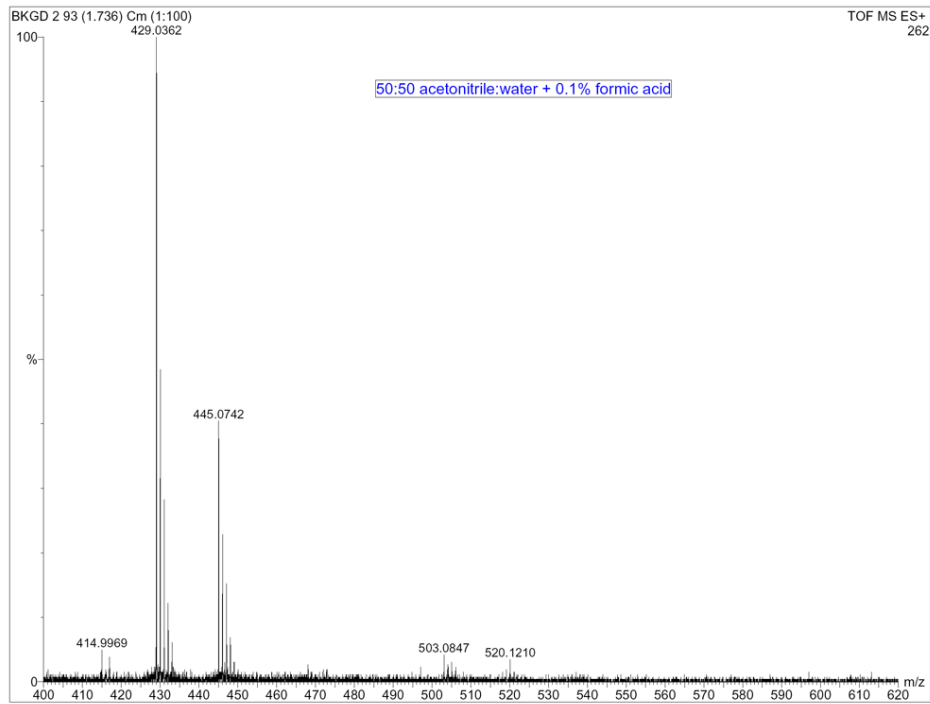

Figure 3 - ESI+ Spectrum Showing Siloxane Contamination
- Siloxanes are often present in laboratory air.5 These compounds, which exist in deodorant and other cosmetic products, can cause contamination under certain conditions, such as nanoflow (Figure 3).